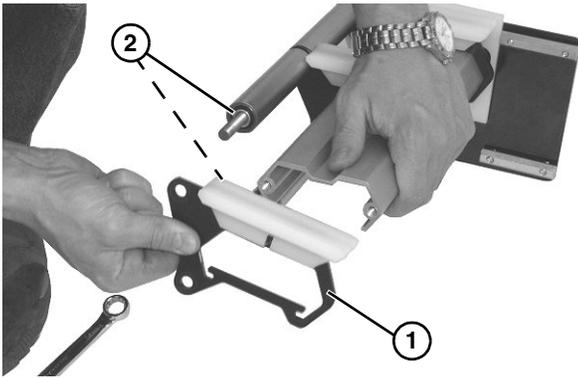

Figure 57
- Slide the support plate (**Figure 57, item 1**) off of both axle shafts.
- Remove washer (**Figure 57, item 2**) off of lower and upper axle shafts.